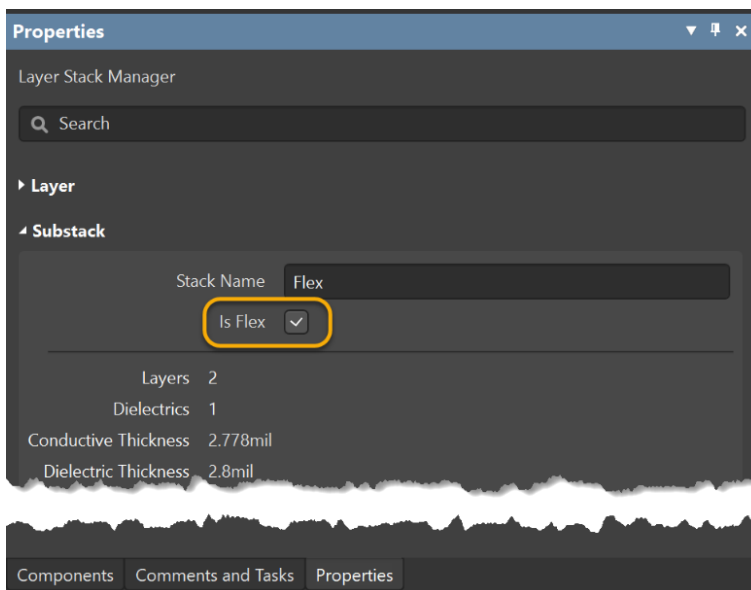

Figure 11. Properties Panel with Option Flex
20. In the *Properties* panel activate the option **Flex** for the Sub Stack Flex, as seen in Figure 11.